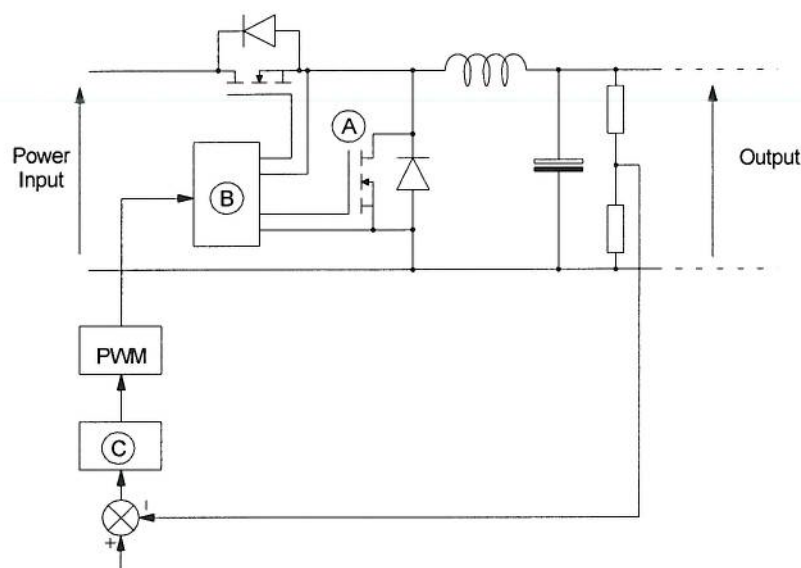

Figure 1.1 A double-switched buck SMPS
- a) Figure 1.1 shows closed-loop controlled switch mode power supply (SMPS).